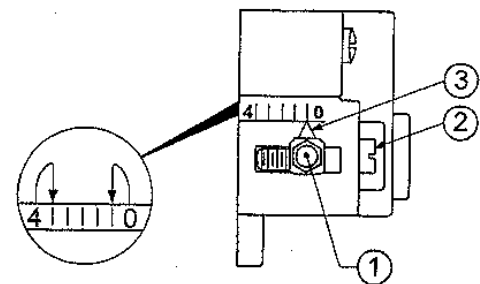

Figure 8: Riello Turbulator Setting
- f. **Turbulator Setting**, refer to Figure 8.